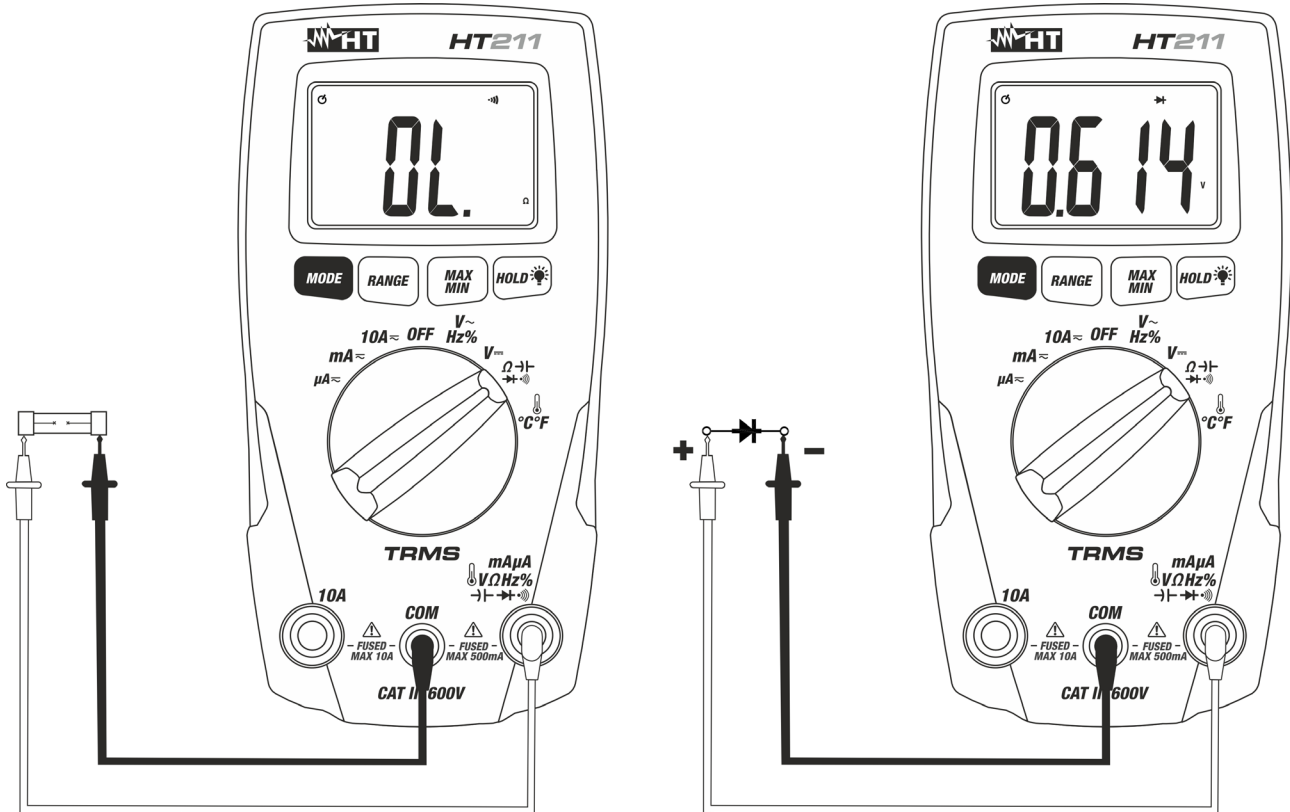

Fig. 6: Using the instrument for Diode test and Continuity test
4. Connect the test leads to the diode under test observing the proper polarities (see Fig. 6 – right part). The threshold voltage value under this situation is displayed
7. Press the **MODE** key until the symbol “ $\rightarrow$ ” is shown at display to meaning the continuity test and connect the meter as resistance measurement (Fig. 6 – left part). Buzzer emits sound if the measured resistance value is $<50\Omega$